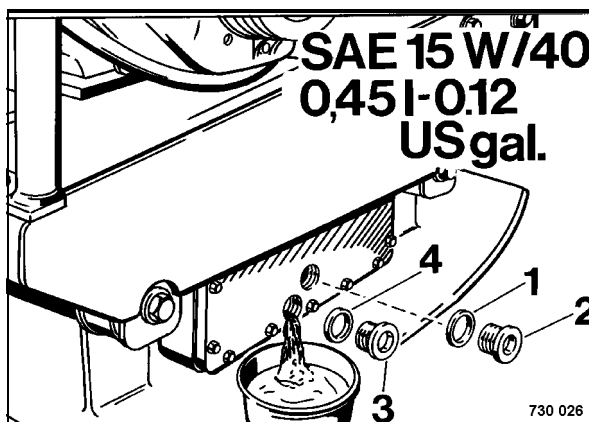

Fig. 52
- Unscrew filler and level plug 2 (Fig. 52).
- Unscrew oil drain plug (3), drain and catch running out old oil.
- Turn the drain plug tightly back in with a new seal ring (4).